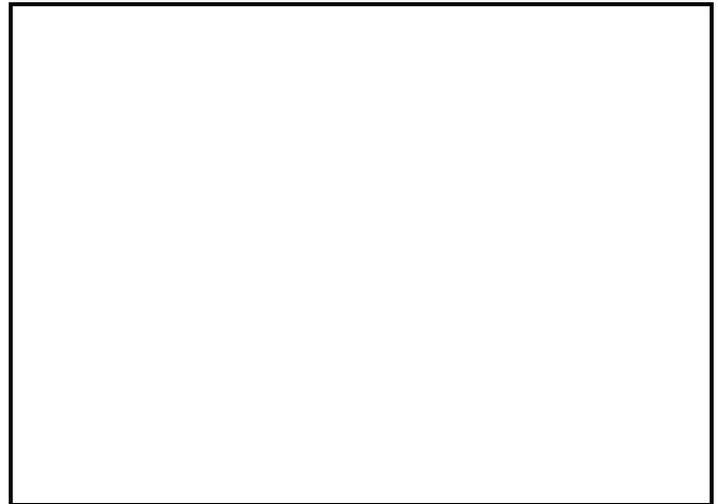

FIG.2 STEREO SOLAR CELL
1. Mount the stereo solar cell in the projector sound head and position the bracket so that the slit image from the exciter lamp hits the top quarter of the cell. The cell should be located approximately 1mm behind the film so that the slit image just fills the cell width, but does not spill over. (See Figs. 2 & 3).